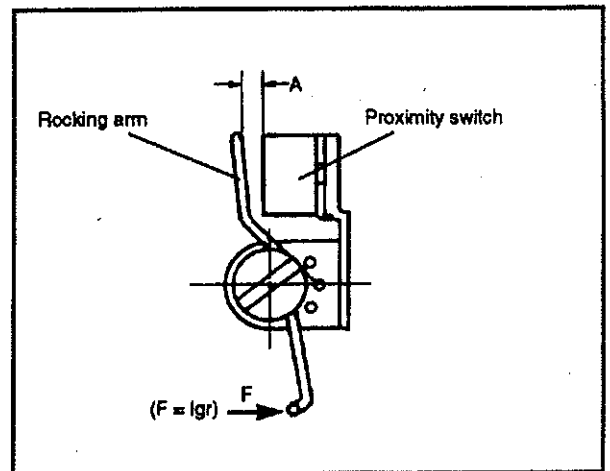

FIG.1
- (2) The proximity switch is turned on/off when rocking arm tip movement A is 0.1 ~0.5mm (Fig.1).